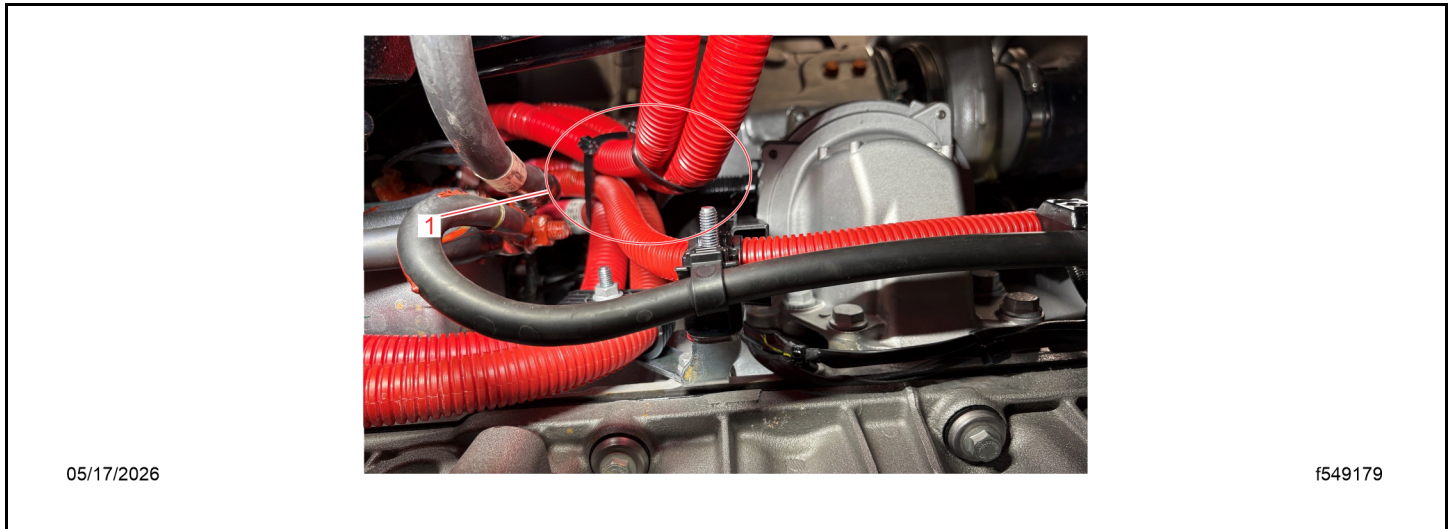

Fig 53, Securing the Cables
27. Route the starter and auxiliary BCA cables next to the other heavy positive cable(s) from the starter to the lower frame rail support bracket. See Fig. **Fig. 53**.